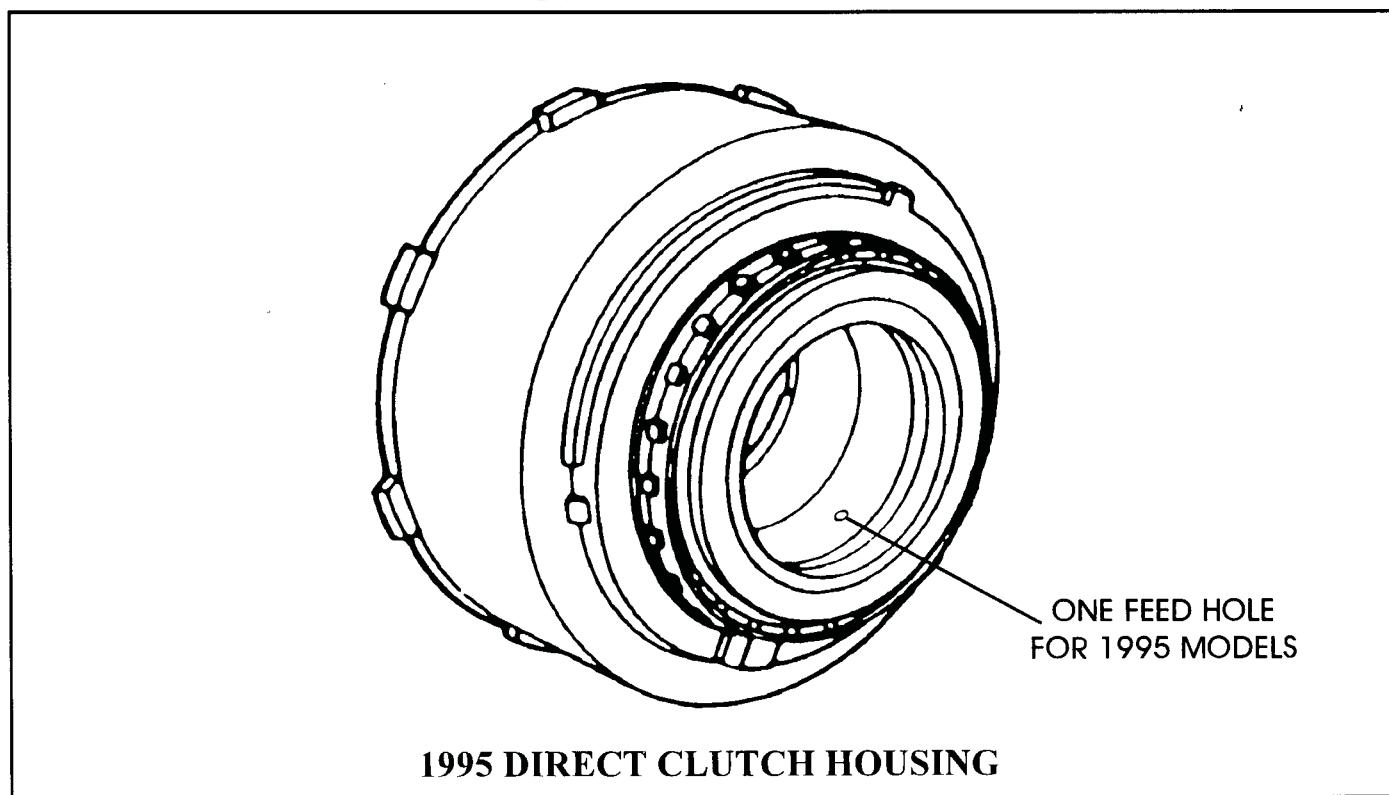

Figure 51
**CHANGE:** Beginning at the start of production for the 1995 model year, all E4OD transmissions were built with a revised Direct Clutch Housing (Intermediate Brake Drum) as shown in Figure 51.
- (1) DIRECT CLUTCH HOUSING - 1995 models now have only *one* direct clutch apply pressure feed hole, instead of the *two* feed holes found in previous models (See Figure 51).